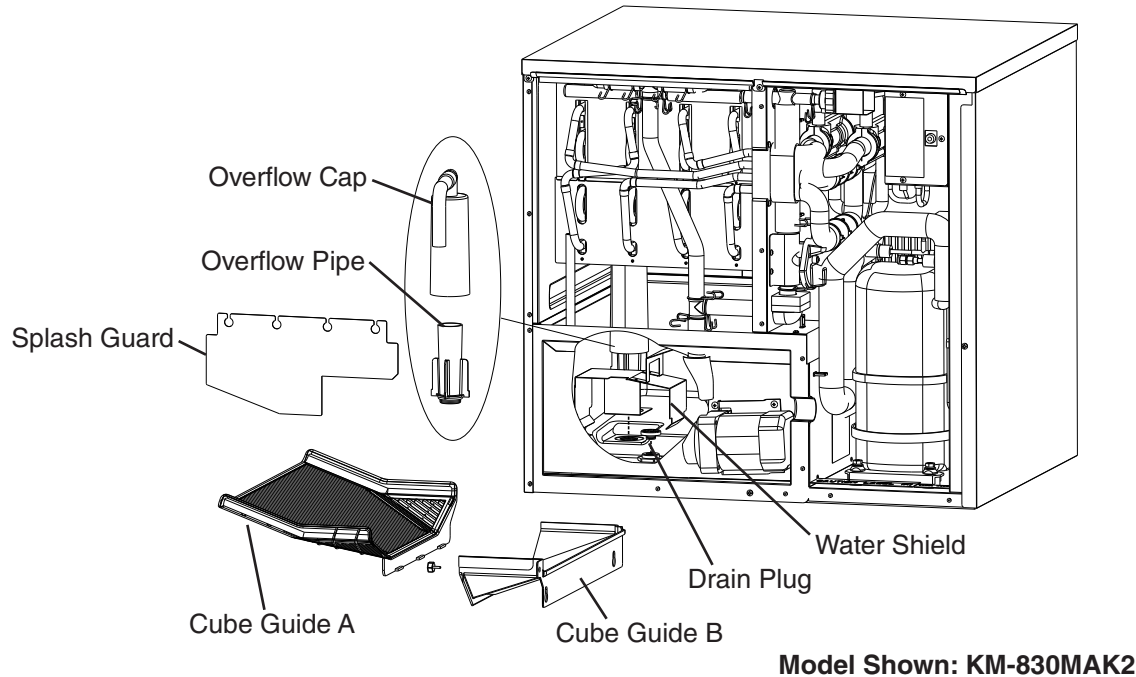

Fig. 11
- 3) Remove the insulation panel. Remove splash guard, cube guide B, then remove cube guide A. Remove the overflow cap, overflow pipe, and water shield. See Fig. 11.